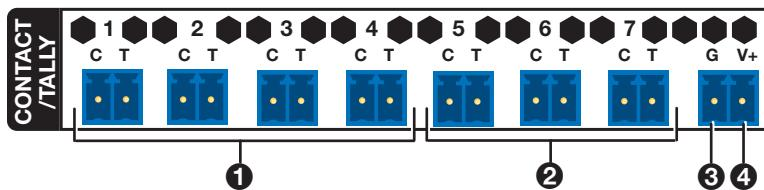

Figure 14. Contact/Tally Panel
- **Contact/Tally ports 1 through 4** — (See figure 14, ①) Each CONTACT/TALLY connector is labeled with the number of the video input associated with it. Wire a push button or other contact closure switch to pin C (Contact) and to the shared pin G (ground, ③).
- If using a tally indicator, connect the indicator device to the shared +V pin (5 VDC, required for tally devices without a power supply, ④) and the T (Tally) pin.